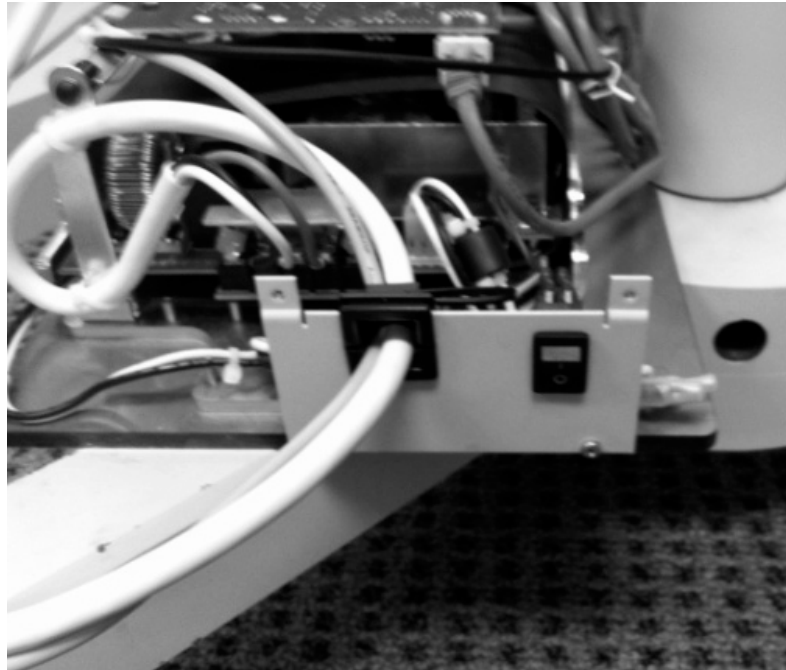

Figure 41: Power Cable Dressing
6. Dress the power cable with cable ties as it is shown on Figure 41.